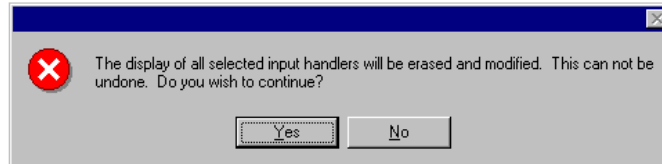

Figure 3-55 Generate Displays Warning Message Window
48. The message window in Figure 3-55 appears.